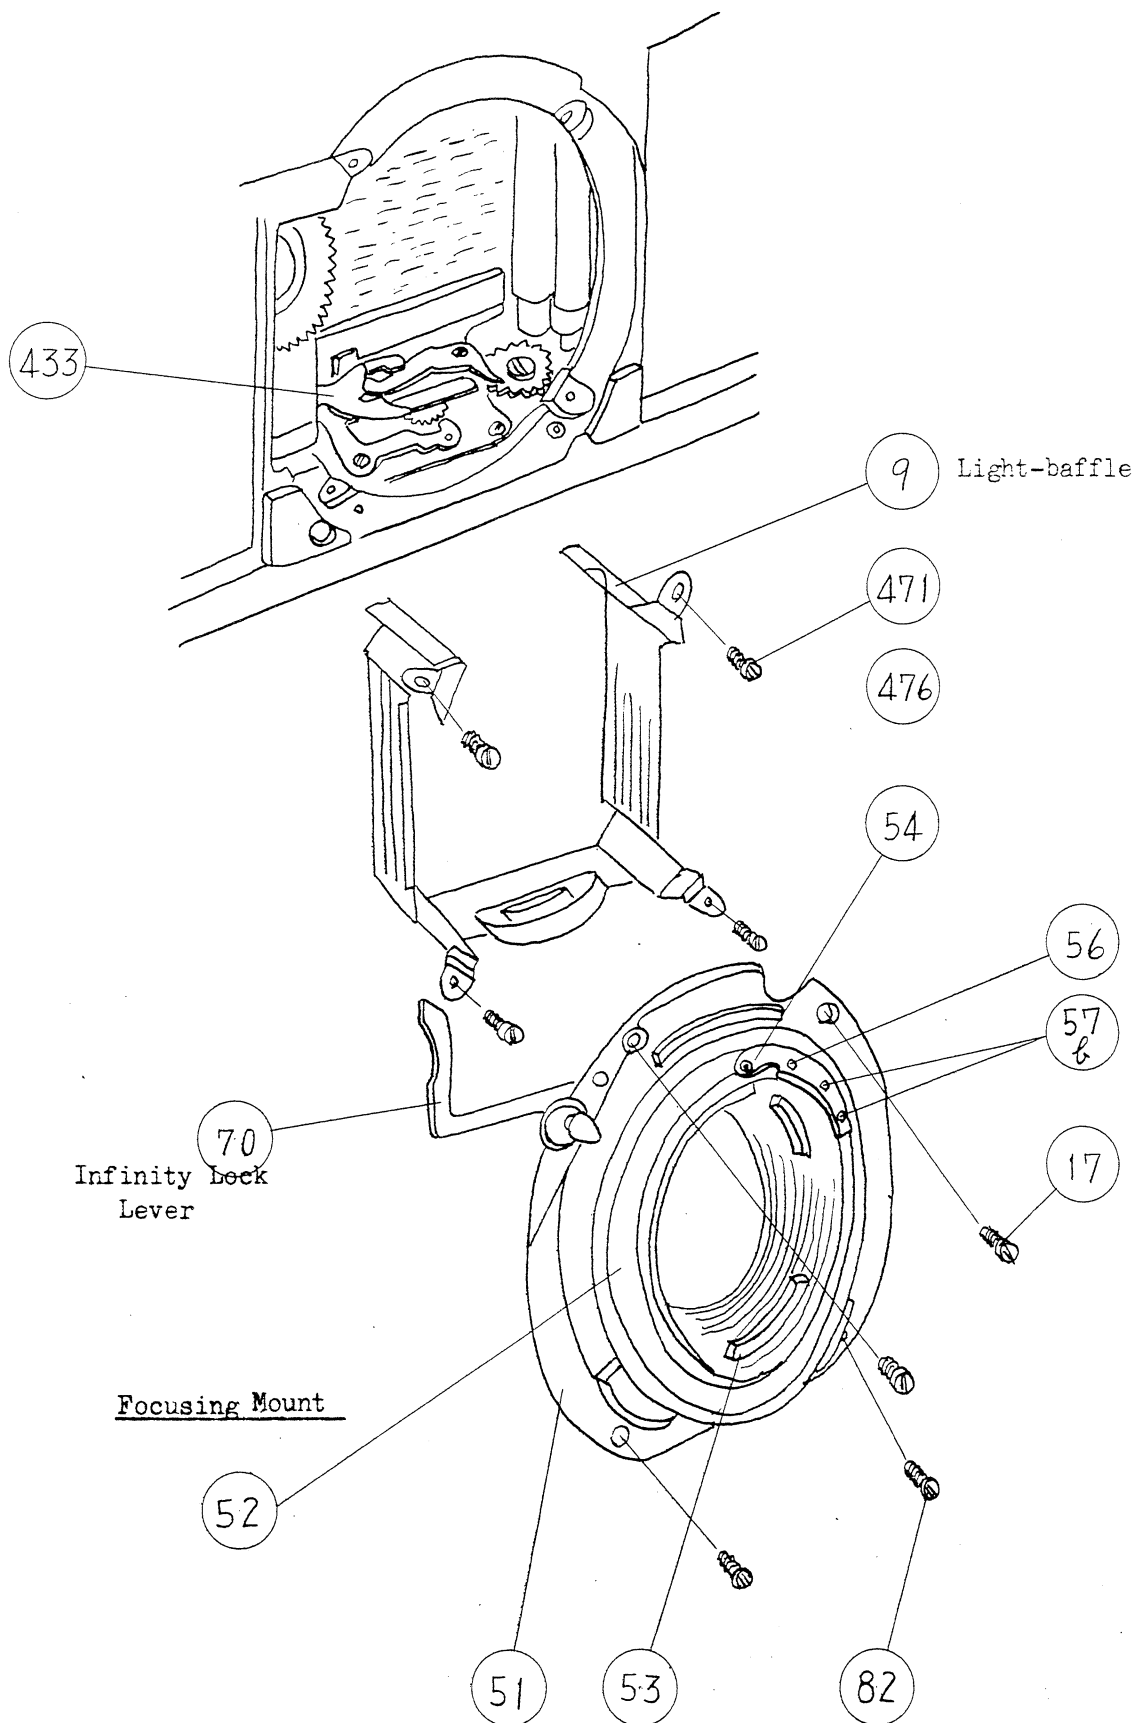

Fig. 3
- b. The position of gear which works as quick return motion of slow speed gear train (Ref. Fig. 3) will be adjusted after assembling by removing two screws and resetting gear.